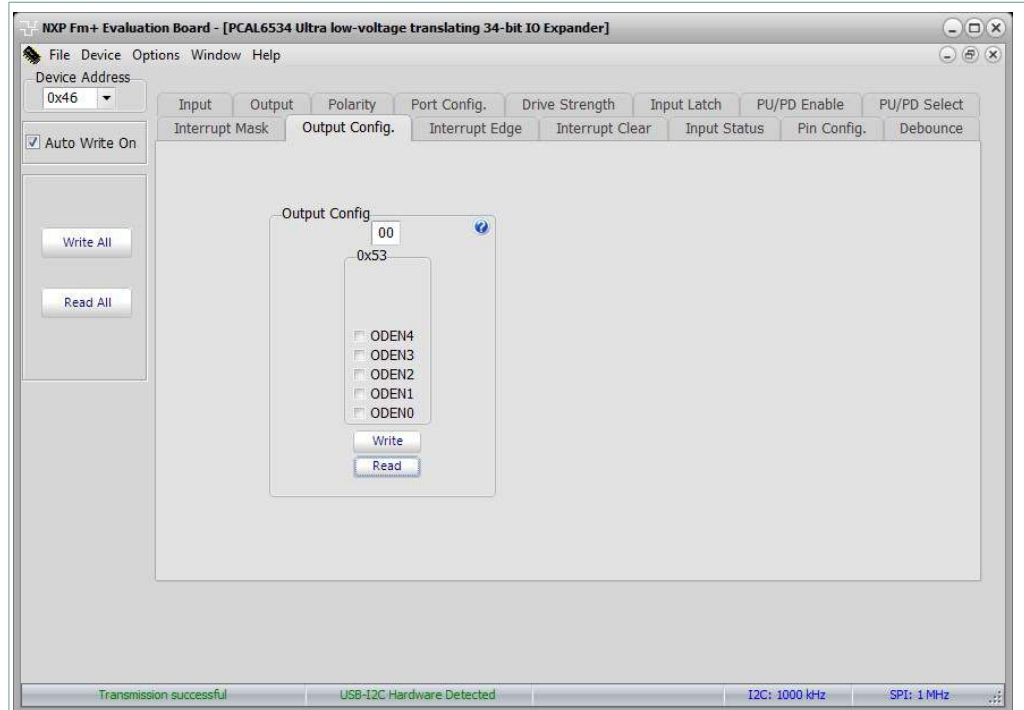

Figure 19. Device configuration screen for registers 53 hex
11. Output port configuration register read or write is shown in Figure 19.